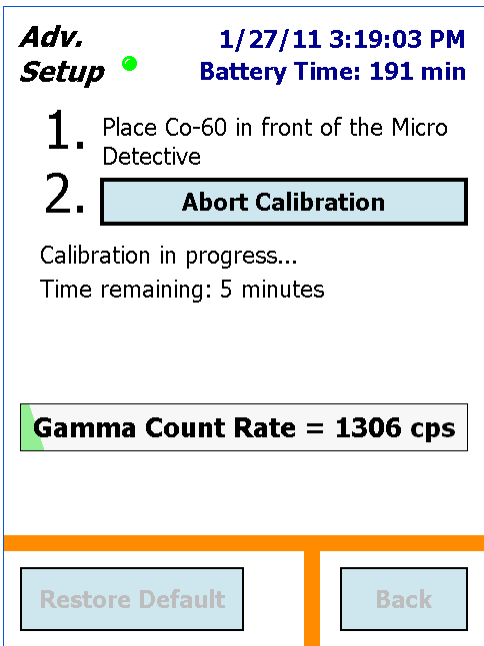

Figure 19. Status of Manual Calibration.
- While calibration is in progress (Fig. 19), the unit will show the **Time remaining**. This interval will depend on the strength of your calibration source.